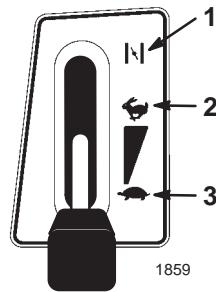

Figure 8
4. Shift the throttle lever to Choke (Fig. 8).
6. After the engine starts, slowly shift the throttle lever to Fast (Fig. 8). If the engine stalls or hesitates, shift the throttle lever back to Choke for a few seconds. Then shift the throttle lever to Fast. Repeat this as required.
1. Shift the throttle lever to Fast (Fig. 8).